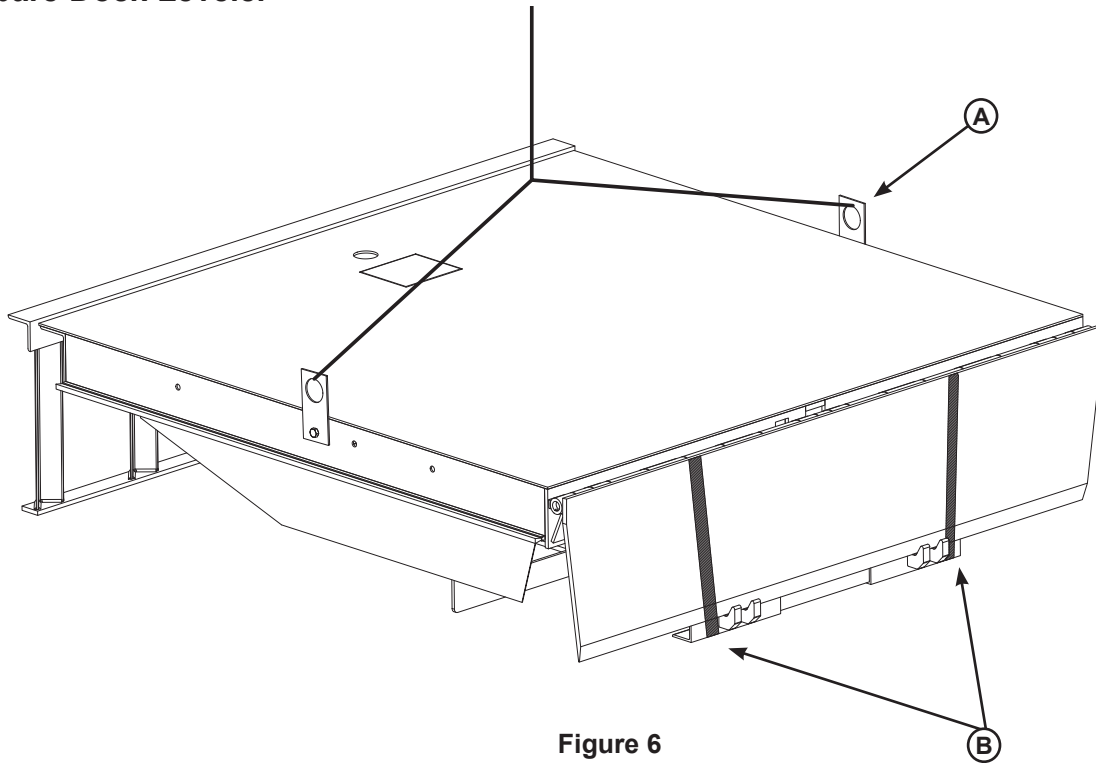

Figure 6
DLM dock levelers are shipped with lifting brackets (A) fastened to the platform side joists, and shipping bands (B) around the platform lip and leveler frame (see Figure 6).